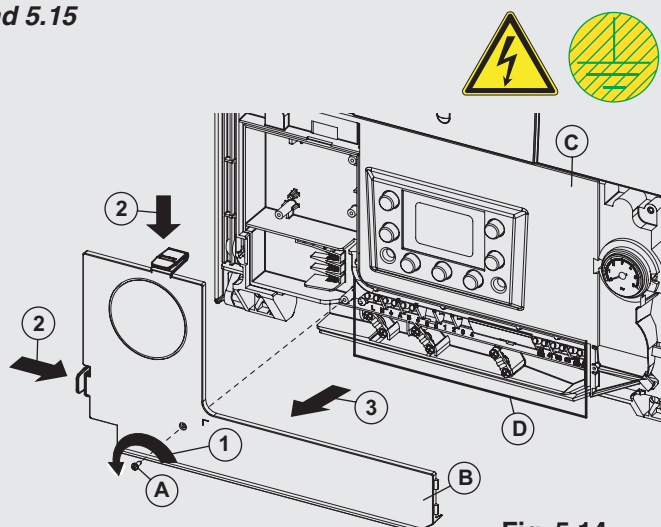

Fig. 5.14
5.10 CONNECT THE MAINS SUPPLY - Figs. 5.14 and 5.15
1. Remove the one screw 'A' in Fig. 5.14.